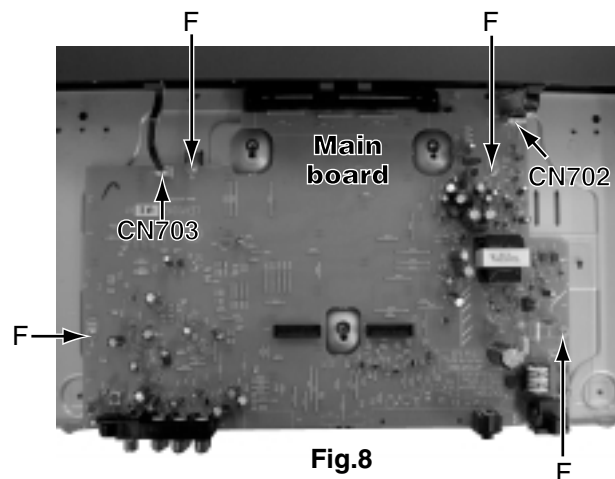

Fig.8
■ Removing the main board (see Fig.8)